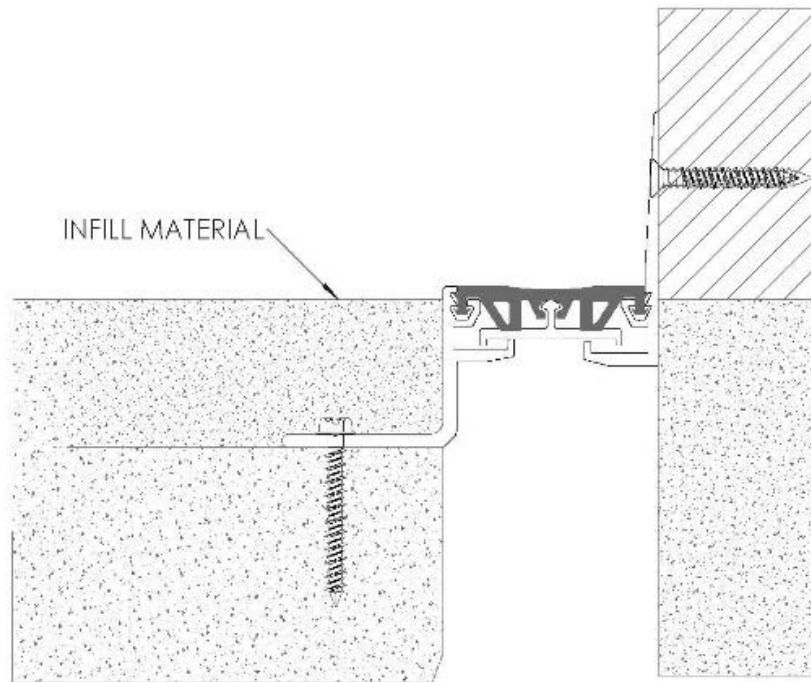

FIGURE 6
6. Protect the exposed surface of the expansion joint, then using an appropriate infill material (by others), fill in the blockout level with the surrounding floor. **See Figure 6**